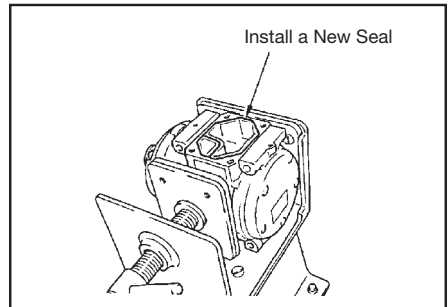

Fig. 2
5. Remove new O-ring(s) from plastic bag (included with compressor) and install O-ring(s) in grooves in compressor. (See Fig. 2)